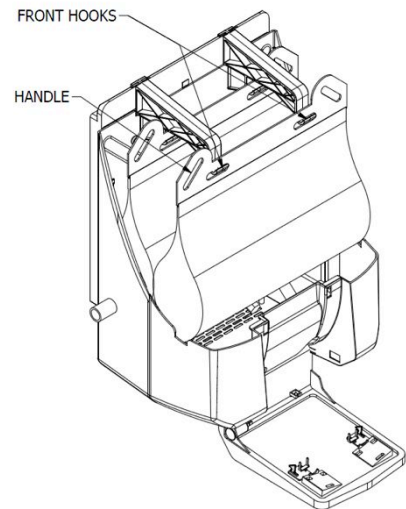

FIGURE 10
- B. Lift second Cartridge by handles provided and place on front hooks of Hanger Bracket (Ref Figure 10).